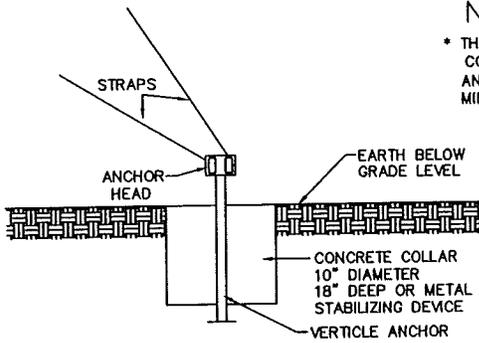

FIGURE 4-5
3. IF ANCHOR IS INSERTED VERTICALLY, A CONCRETE COLLAR OR STABILIZING DEVICE MUST BE USED AT THE GROUND LINE. SEE FIG. 4-5 & 4-6.